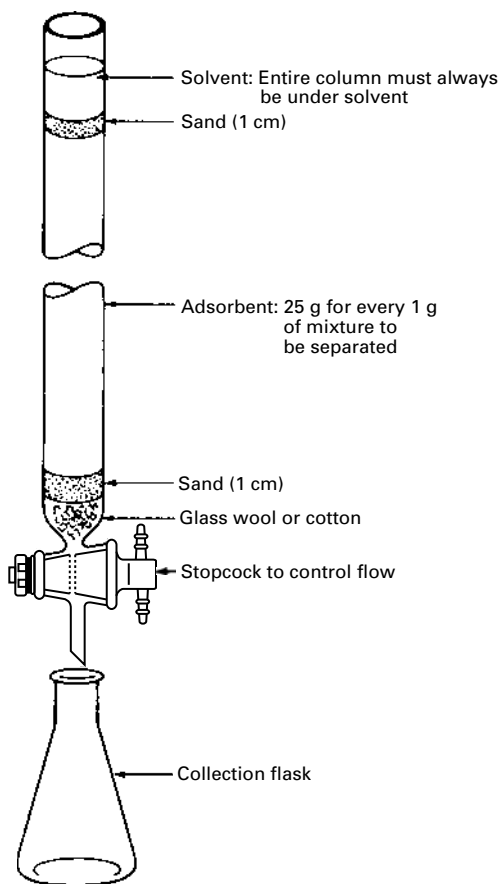

FIGURE 28.1 Wet-column chromatography setup.
1. The adsorbent is supported by a glass tube that has either a stopcock or a piece of tubing and a screw clamp to control the flow of eluent (Figs. 28.1 and 28.2). You can use an ordinary buret. What you will use will depend on your own lab program. Right above this control, you put a wad of cotton or glass wool to keep everything from falling out. *Do not use too much cotton or glass wool, and do not pack it too tightly.* If you ram the wool into the tube, the flow of eluent will be very slow, and you'll be in the lab until next Christmas waiting for the eluent. If you pack it *too loosely*, all the stuff in the column *will fall out*.